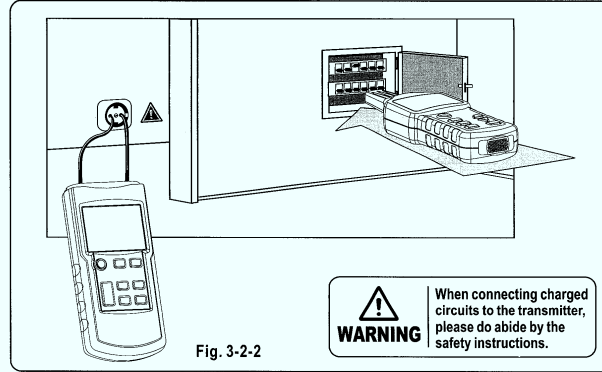

Fig. 3-2-2
In a building with multiple residences, use the L and N ports on the socket of any residence to feed the signals from the transmitter (as shown in Fig.3-2-2), and adjust the transmitting power of the transmitter to a suitable level.
- Connect the transmitter according to Fig.3-2-2.